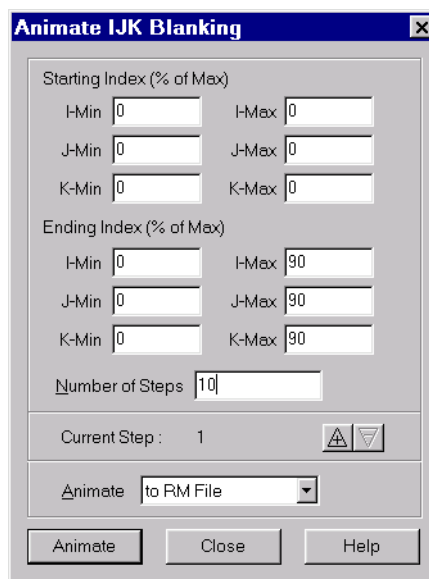

Figure 30-6. The Animate IJK-Blanking dialog.
5. From the Tools menu, choose Animate, then choose IJK-Blanking. The Animate IJK-Blanking dialog appears, as shown in Figure 30-6.